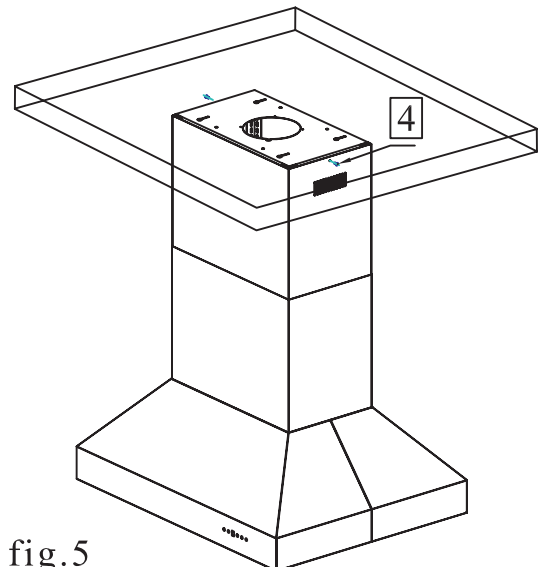

fig.5
Step five: Slide the inner chimney up over the top mounting plate securing with two screws provided. Pull the lower section down to rest on top of the main hood. fig 5.
3. Install #6 x 1/2" screws through the pre-drilled EZ mount holes into the decorative hood structure. Tap chrome cap into EZ mount holes for flush appearance See Figure 5.